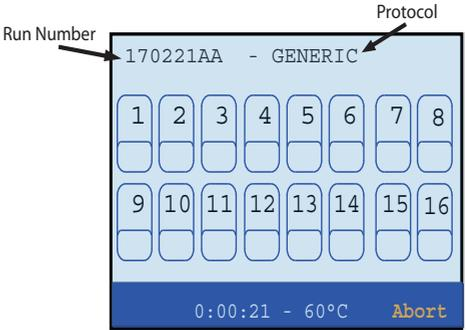

Fig. 9
3.6 The indicator light will turn red and the screen will change (Fig 9). The number on the upper left-hand side of the screen is the “run number”. The number is composed of the date in reverse accompanied by two letters. If more than one run is performed on the same day the number will remain the same and the letters will change. The test protocol is located in the top middle section of the screen. The time period which has passed from initiation of the run can be seen on the bottom middle section of the screen.